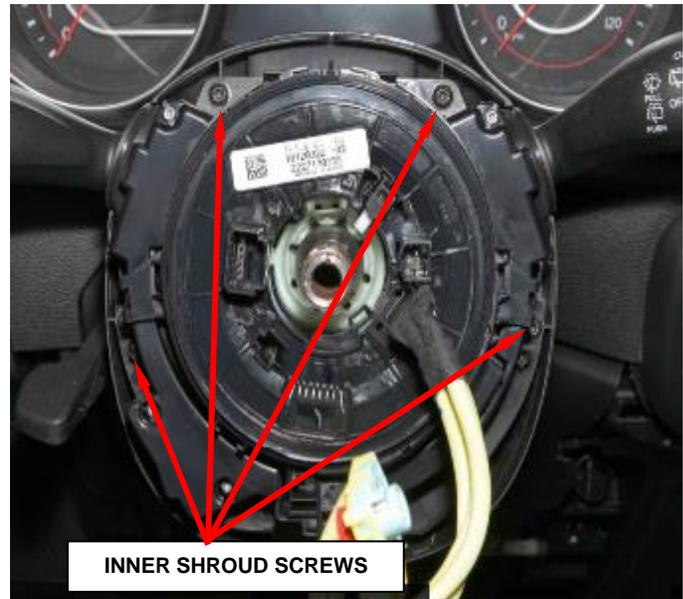

Figure 25 – Inner Shroud Screws
8. Remove and save the four inner shroud fasteners from the SCCM (Figure 25).